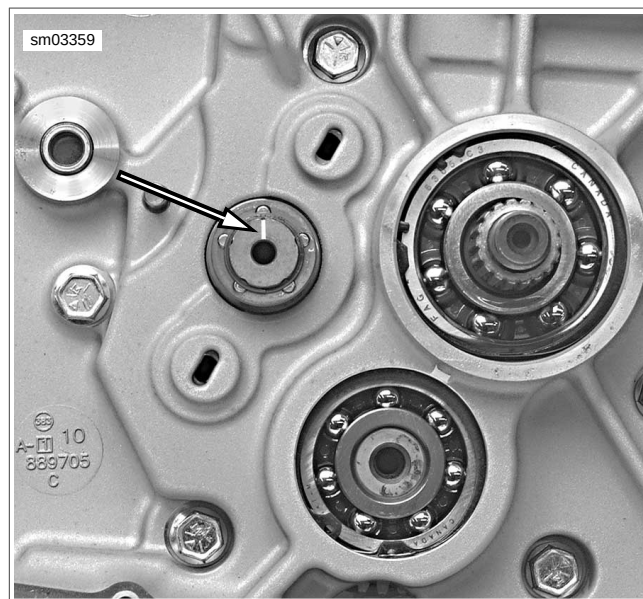

Figure 5-54. Scribed Line on Shifter Drum at 12 o'clock
12. See Figure 5-54. With transmission still in neutral, scribe a line on the end of the shifter drum at the 12 o'clock position for later reference.